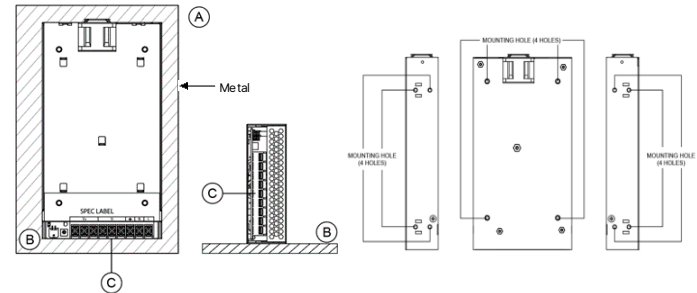
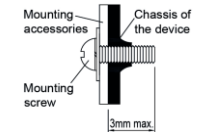

Fig. 3. Recommended Mounting Orientations & Mounting Hole Locations
Fig. 5. Assembly Reference
- ① Input & Output terminal block connector
- ② DC voltage adjustment potentiometer
- ③ DC OK control LED (Green)
- ④ Remote ON/OFF and Remote Sense connector
- **(A)** Mounting: Fig. 3 show the mounting hole locations for power supply assembly onto a metal mounting surface. Fig. 5, only use M4 screw ≤ 3 mm (0.20 inch) through the base mounting holes. This is to keep a safe distance between the screw and internal components.
- **(B)** Fig. 3: This surface belongs to customer's end system or panel where the device is mounted.
- **(C)** Fig. 3: Connector